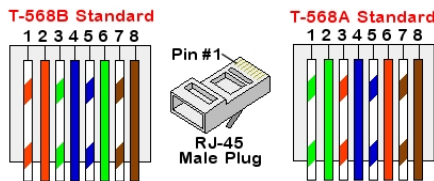

Figure 23: Standard cable wiring
- c. Insert the eight wires into an RJ45 connector, as described in *Figure 23*.
7. For the switch/router side, use a pre-terminated cable or use a crimper to prepare an RJ45 communication connector: Insert the eight wires into the RJ45 connector in the same order as above (*Figure 23*).